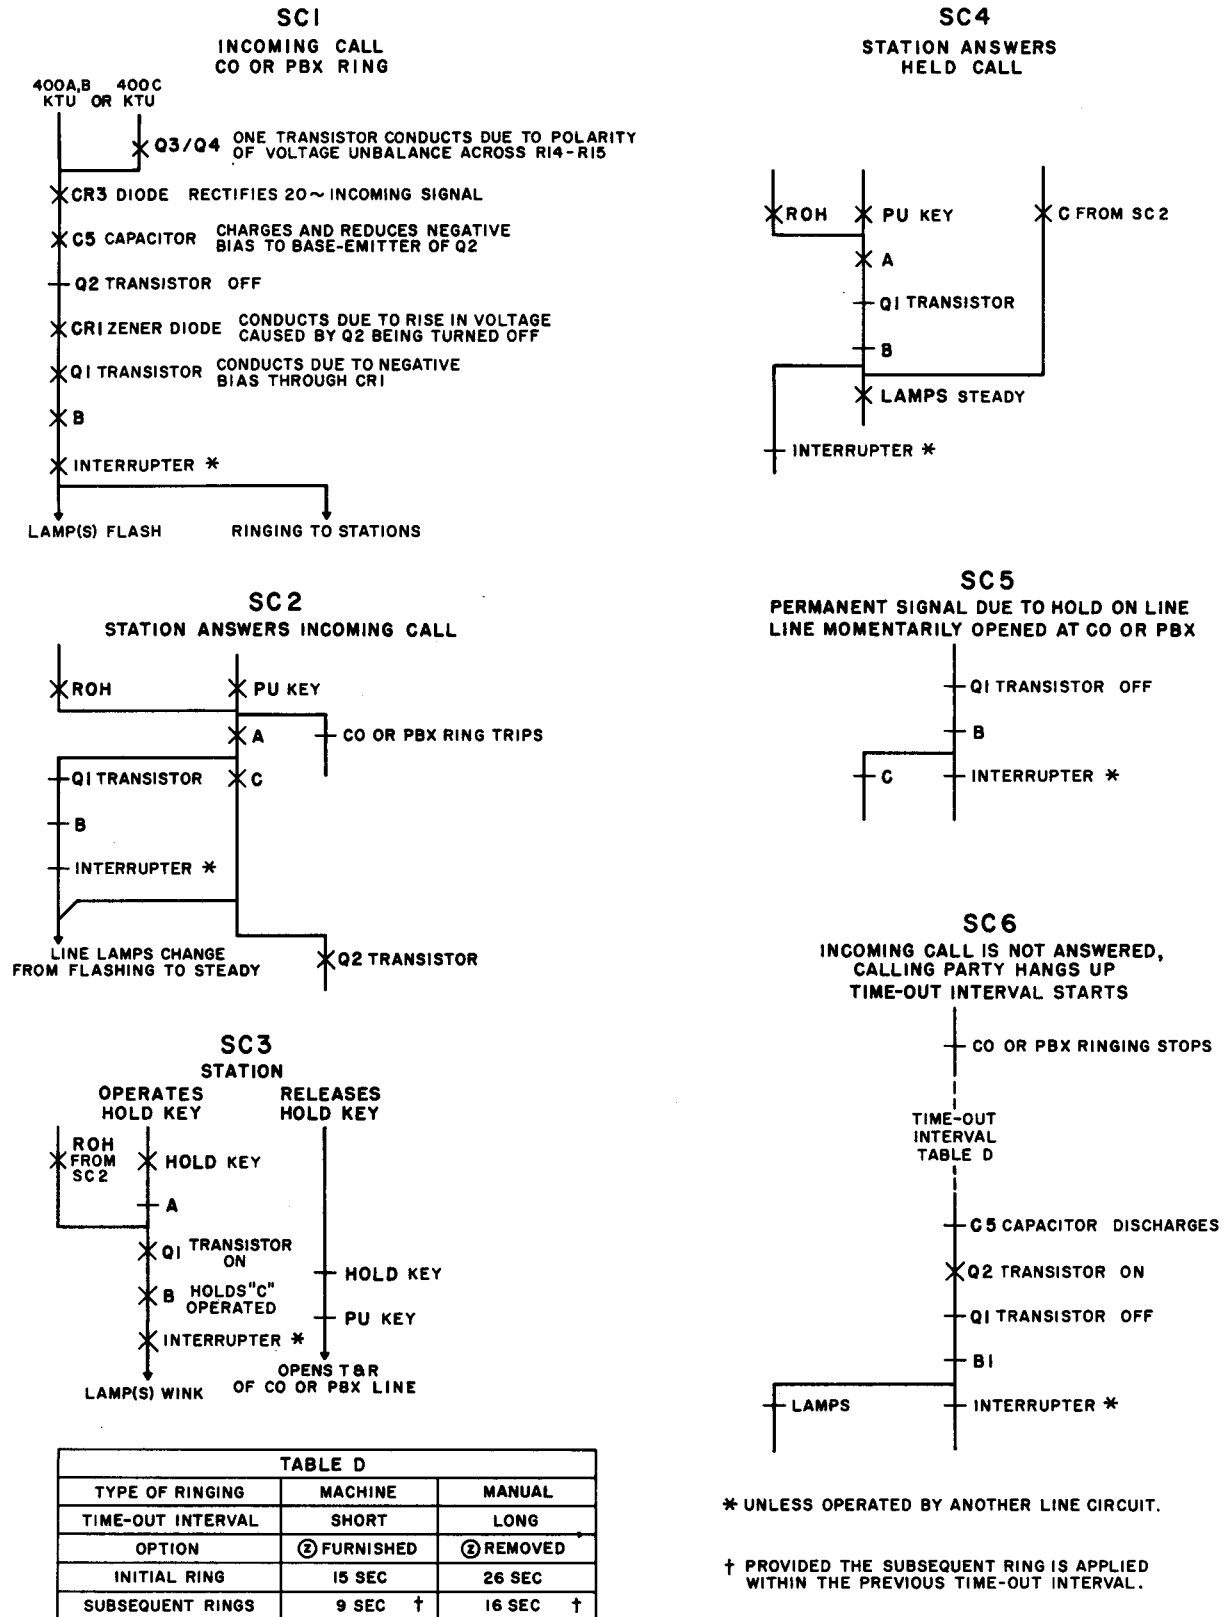

Fig. 7 — Sequence Charts (SC1 to SC6) Showing Operational Sequence of 400A, B, and C KTUs
- 5.04 Operational sequence charts are shown in Fig. 7 and 8.